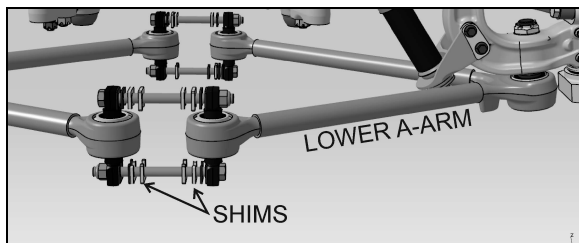
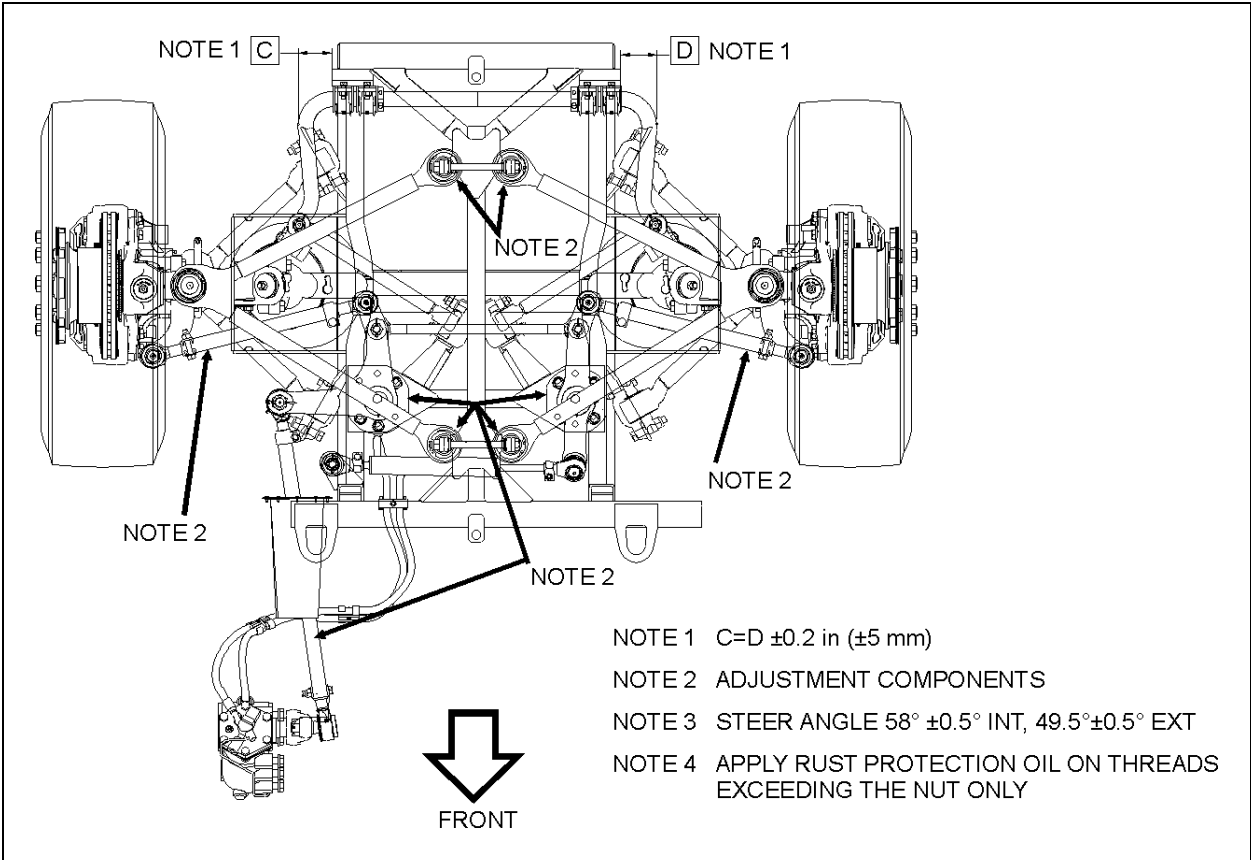
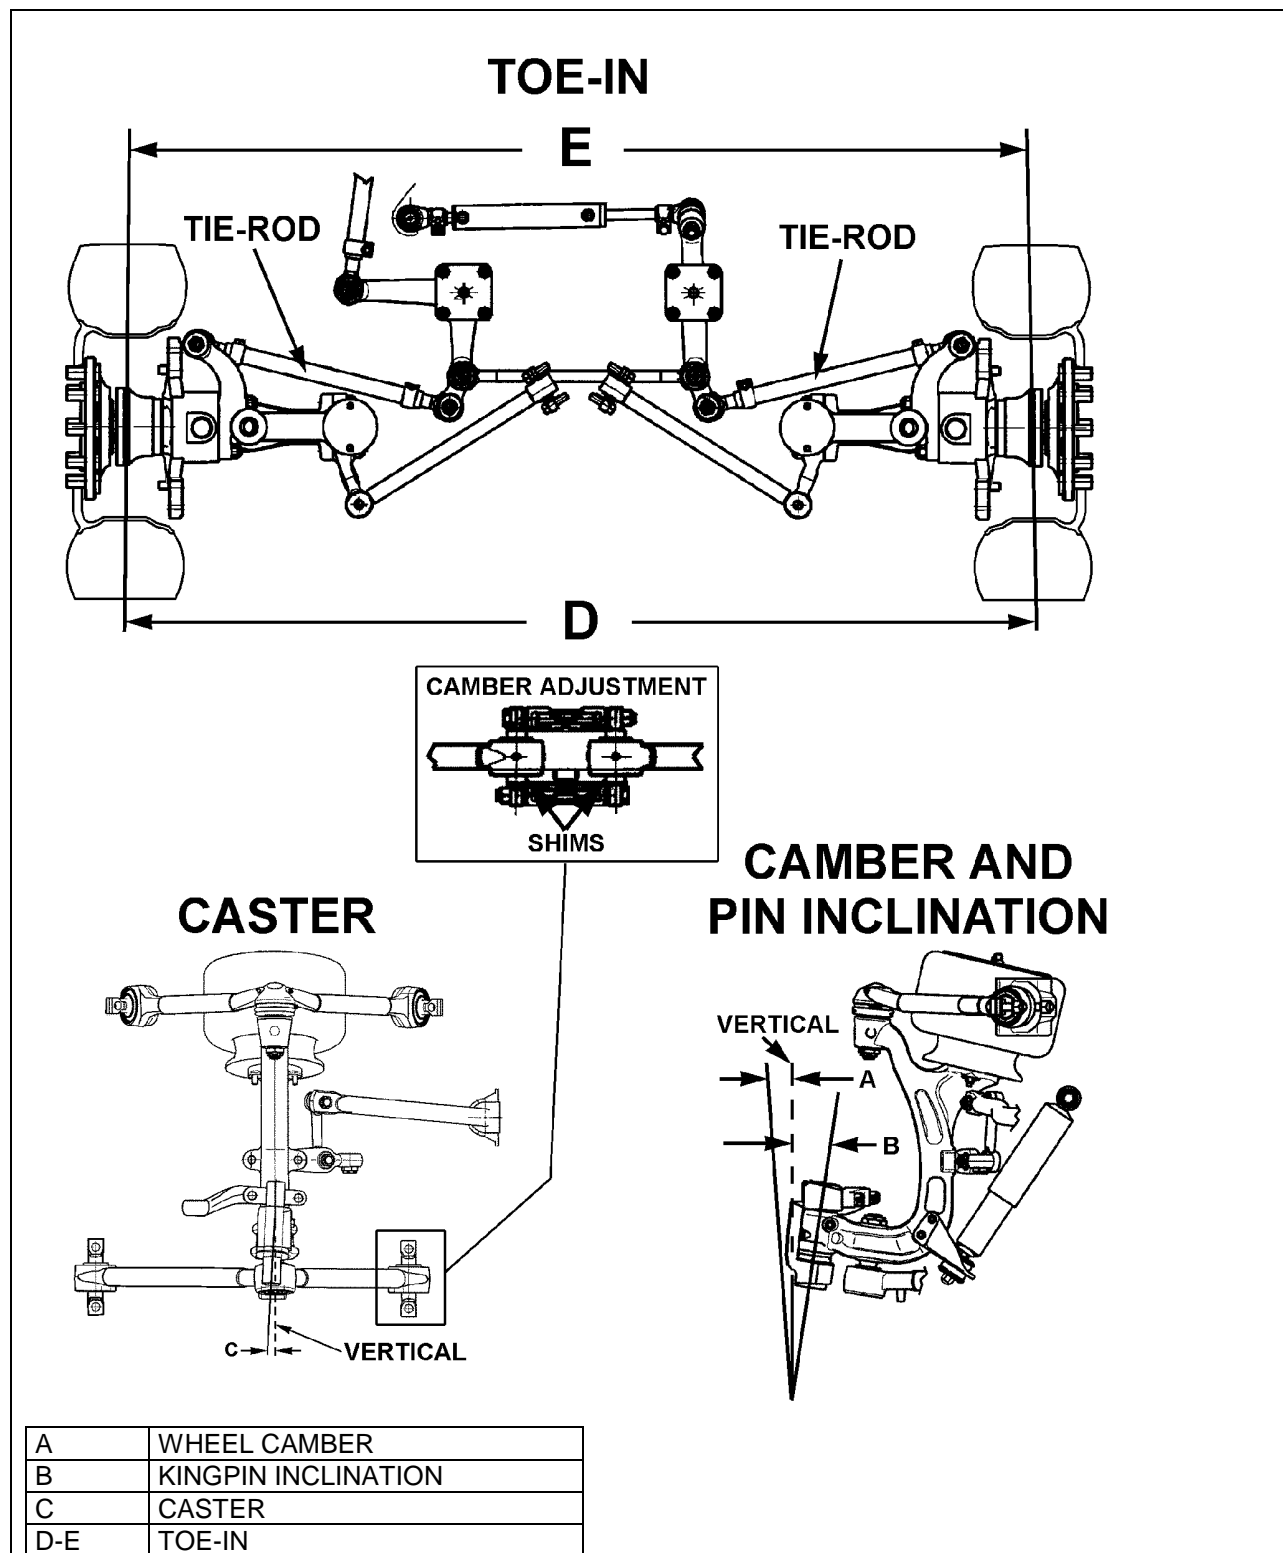

FIGURE 22: SHIMS AT THE LOWER A-ARMS
FIGURE 25: IFS ADJUSTMENT
FIGURE 26: FRONT END ALIGNMENT DIAGRAM
Wheel Camber: Camber is the number of degrees the top of the wheel is tilted inward or outward from a true vertical (Figure 26).
(D minus E, Figure 26).
Kingpin Inclination: The inclination of the kingpin from vertical toward the center of the vehicle at the top and outward at the bottom (B, Figure 26).
Front Axle Caster: The inclination of the kingpin from vertical in the fore and aft direction (C, Figure 26).
Shim the lower A-arm to adjust camber (Figure 22 & FIGURE 25). If the kingpin inclination is incorrect, the wheel kingpin assembly may be bent and therefore should be replaced.
- Using a pipe wrench, turn the tie rod tubes to obtain the toe-in measurement specified in step 5 under paragraph "Toe-in Check" (Figure 26).
Caster variations may be caused by bent upper suspension A-arm, lower suspension A-arm, or kingpin housing. Caster should be adjusted with shims. Precision instruments should be used to measure caster. Shim bell crank and idler arm to adjust caster (Figure 26).
See FIGURE 25 & Figure 26.